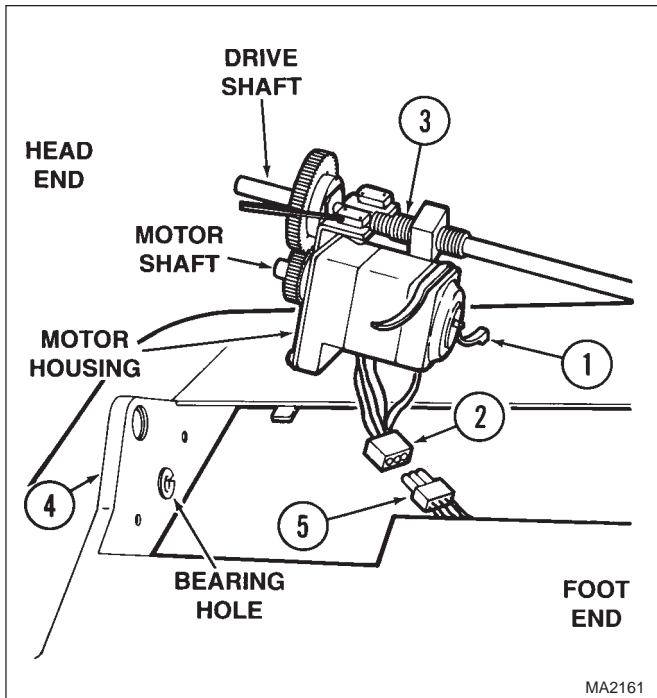
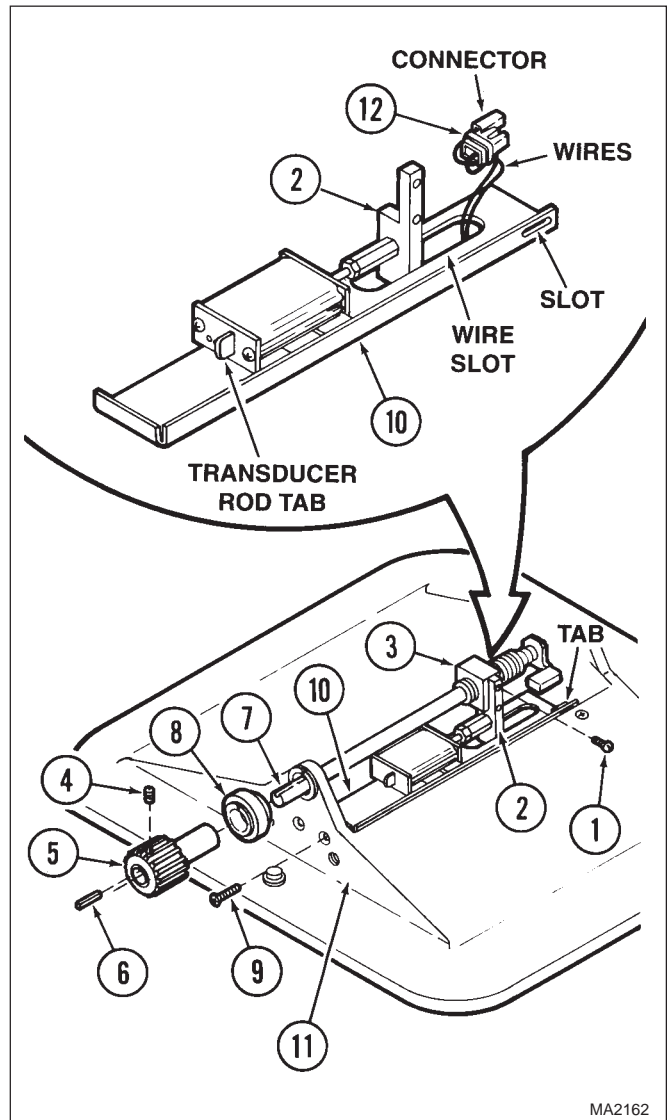

Figure 4-35. Lateral Tilt Drive Assembly Installation
Figure 4-36. Transducer Plate Installation
- (3) Slide the pinion gear (9) and key (10) until the outside face of the pinion gear is 7/16 in (1.11 cm) from the end of lateral tilt motor (11) shaft. Secure pinion gear (9) and key (10) in place by tightening setscrew (8).
- (4) Install drive shaft (2) in bull gear bracket (7).
- (5) Install fiber washer (6), key (5), and bull gear (4) on drive shaft (2).
- (6) Push drive shaft (2) firmly against bull gear bracket (7) while from the other direction, lightly pushing bull gear (4) and key (5) against bull gear bracket. Secure bull gear (4) and key (5) in place by tightening setscrew (3).
- (7) If removed, screw lead nut (1) onto drive shaft (2) one full turn.
- (8) Connect lateral tilt wire harness (2, Figure 4-35) to wire harness (5).
- (9) Insert long end of drive shaft into foot end of trendelenburg plate (4).
- (10) Insert short end of lateral tilt drive assembly (3) drive shaft into head end of trendelenburg plate (4), making sure the motor shaft is inserted into bearing hole. Push the lateral tilt drive assembly (3) toward head end of surgery table until motor shaft is fully seated in bearing hole.
- (11) Secure lateral tilt wire harness (2) to motor housing of lateral tilt drive assembly (3) with cable tie (1).
- (12) Feed connector thru wire slot in transducer plate (10, Figure 4-36).